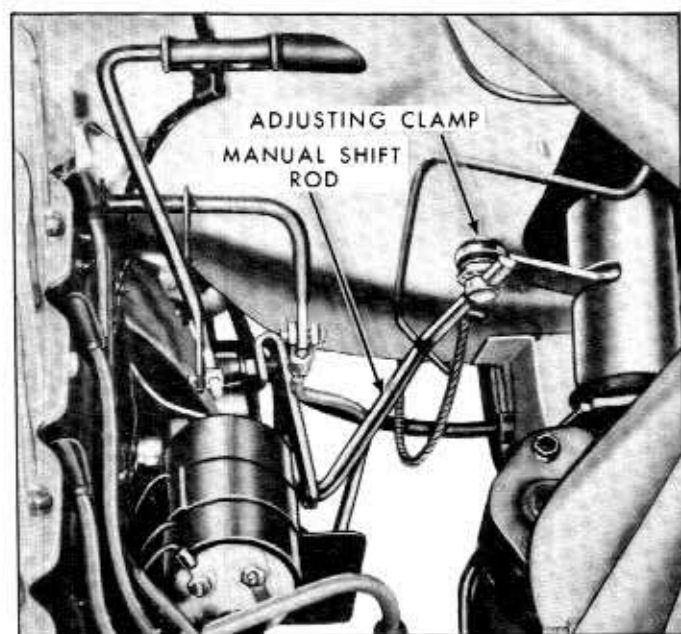

Fig. 7A-5—Manual Linkage—(60C-4405)
2. To adjust the switch, loosen the neutral switch to steering column attaching screws. Refer to figure 7A-6. Position the switch so that the starter circuit is closed when the selector lever is at N and P stops only.